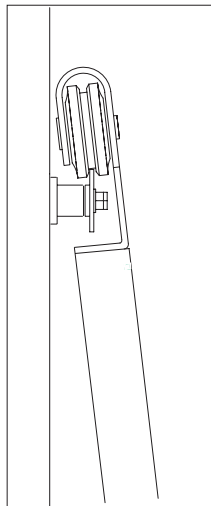

Figure 3
1. Hang the door on the track (Figure 3).